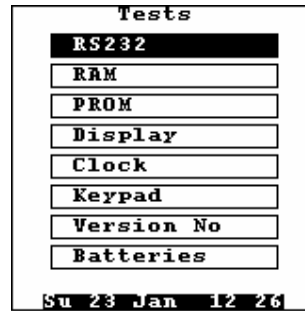

Fig. 13
- The SELF-TESTING mode can be got from the initial splashscreen. To enter SELF-TESTING mode press and release the SHIFT+RIGHT+LEFT keys. SELF-TESTING menu appears on the Display (Fig. 13).